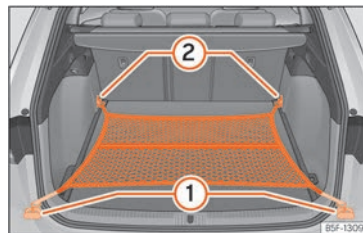

Fig. 135 In the luggage compartment: net bag hooked up at floor level.
- Secure the net hooks to the fastening rings ① and ② »» Fig. 135 »» ⚠. The bag zip should be facing upwards.